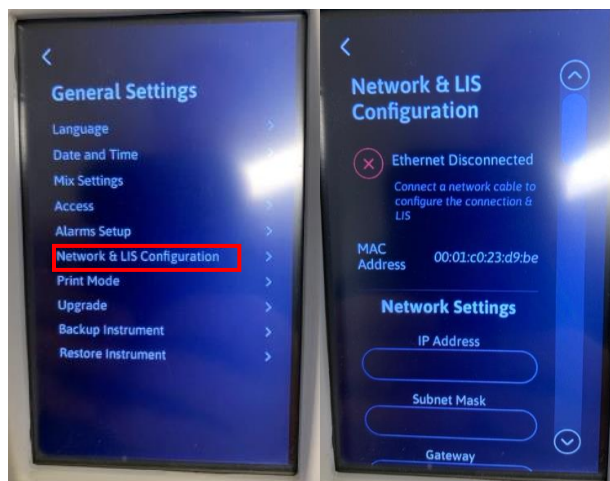

Figure 47
10.6. Update the Network and LIS Configuration settings according to customer preferences. Figure 47.